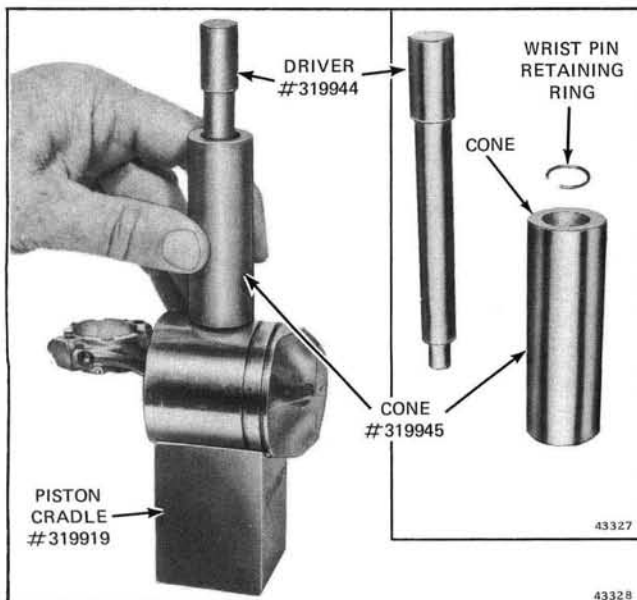

Figure 5-33. Installation Wrist Pin Retaining Rings
c. Using piston cradle, wrist pin driver (Special Tool #319944) and wrist pin cone (Special Tool #319945) start retaining ring in tapered end of cone. Press retaining rings into piston. Make sure retaining rings seat in grooves in piston. See Figure 5-33.